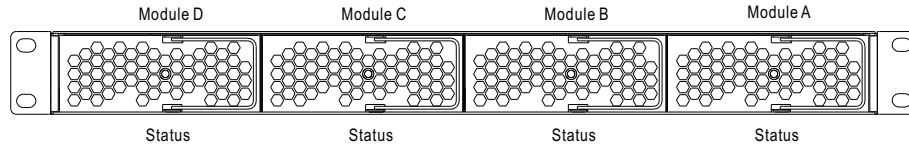

Figure 5-1 DHP System assembly diagram
- ◎ Insert 1 ~ 4 pieces of DRP/DBR-3200 (with the same output voltage and current) into the DHP-1U (refer to Figure 5-1)